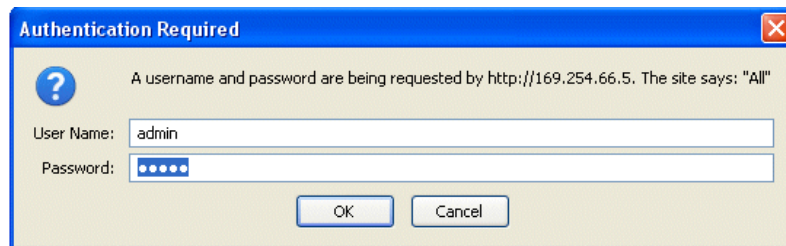

Figure 24. Login Screen
3. Enter the radio's IP address in a web browser window, just as you would enter a website address (<http://192.168.1.1>). When the login screen appears (Figure 24), enter the User Name and Password for the radio. The default entries for a new radio are both **admin**. Click **OK**.